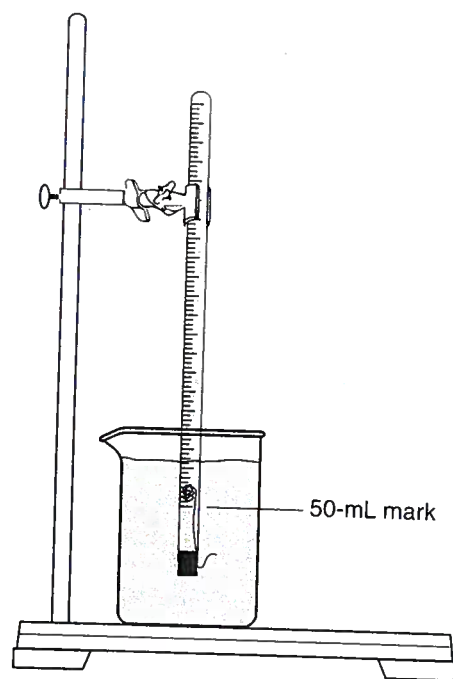

Figure 3.
11. Place your finger over the hole of the rubber stopper, invert the eudiometer tube, and carefully lower the stoppered end of the tube into the 400-mL beaker containing water. The tube should contain no air bubbles. Clamp the tube in place (see Figure 3). The hydrochloric acid, being more dense than water, will diffuse downward through the tube and begin to react with the magnesium. The wire cage will keep the magnesium from floating up into the tube.